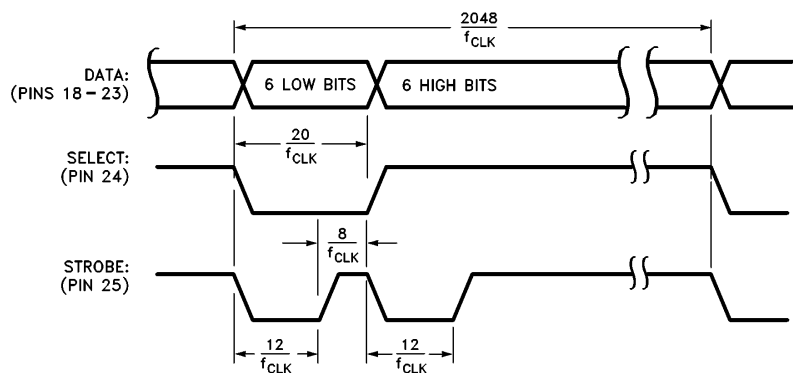
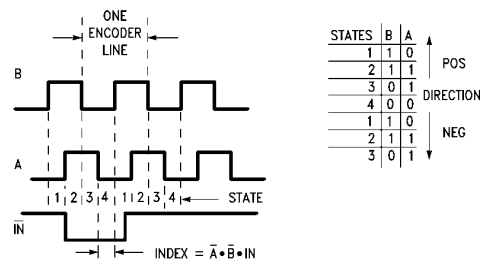

FIGURE 8. 12-Bit Multiplexed Output Timing
FIGURE 9. Quadrature Encoder Signals
**Pin 1 (17), Index ( $\overline{IN}$ ) Input:** Receives optional index pulse from the encoder. Must be tied high if not used. The index position is read when Pins 1, 2, and 3 are low.
**Pins 2 and 3 (18 and 19), Encoder Signal (A, B) Inputs:** Receive the two-phase quadrature signals provided by the incremental encoder. When the motor is rotating in the positive ("forward") direction, the signal at Pin 2 leads the signal at Pin 3 by 90 degrees. Note that the signals at Pins 2 and 3 must remain at each encoder state (See Figure 9) for a minimum of 8 clock periods in order to be recognized. Because of a four-to-one resolution advantage gained by the method of decoding the quadrature encoder signals, this corresponds to a maximum encoder-state capture rate of 1.0 MHz ( $f_{CLK} = 8.0$  MHz) or 750 kHz ( $f_{CLK} = 6.0$  MHz). For other clock frequencies the encoder signals must also remain at each state a minimum of 8 clock periods.
**Pin 12 (5), Chip Select ( $\overline{CS}$ ) Input:** Used to select the LM628 for writing and reading operations.
**Pin 13 (6), Read ( $\overline{RD}$ ) Input:** Used to read status and data.
**Pin 14 (7), Ground (GND):** Power-supply return pin.
**Pin 15 (8), Write ( $\overline{WR}$ ) Input:** Used to write commands and data.
**Pin 16 (9), Port Select ( $\overline{PS}$ ) Input:** Used to select command or data port. Selects command port when low, data port when high. The following modes are controlled by Pin 16:
**Pin 17 (10), Host Interrupt (HI) Output:** This active-high signal alerts the host (via a host interrupt service routine) that an interrupt condition has occurred.
2. LM628 (12-bit output mode): Outputs two, multiplexed 6-bit words. The less-significant word is output first. The MSB is on Pin 18 and the LSB is on Pin 23. Pin 24 is used to demultiplex the words; Pin 24 is low for the less-significant word. The positive-going edge of the signal on Pin 25 is used to strobe the output data. Figure 8 shows the timing of the multiplexed signals.
and an index pulse input. The quadrature signals are used to keep track of the absolute position of the motor. Each time a logic transition occurs at one of the quadrature inputs, the LM628 internal position register is incremented or decremented accordingly. This provides four times the resolution over the number of lines provided by the encoder. See *Figure 9*. Each of the encoder signal inputs is synchronized with the LM628 clock.
The above position, velocity, and acceleration values must be converted to binary codes to be loaded into the LM628. The values shown for velocity and acceleration must be multiplied by 65,536 (as shown) to adjust for the required integer/fraction format of the input data. Note that after scaling the velocity and acceleration values, literal fractional data cannot be loaded; the data must be rounded and converted to binary. The factor of four increase in system resolution is due to the method used to decode the quadrature encoder signals, see *Figure 9*.
The LM628 DAC output port can be configured to provide either a latched eight-bit parallel output or a multiplexed 12-bit output. The 8-bit output can be directly connected to a flow-through (non-input-latching) D/A converter; the 12-bit output can be easily demultiplexed using an external 6-bit latch and an input-latching 12-bit D/A converter. The DAC output data is offset-binary coded; the 8-bit code for zero is 80 hex and the 12-bit code for zero is 800 hex. Values less than these cause a negative torque to be applied to the motor and, conversely, larger values cause positive motor torque. The LM628, when configured for 12-bit output, provides signals which control the demultiplexing process. See *Figure 8* for details.